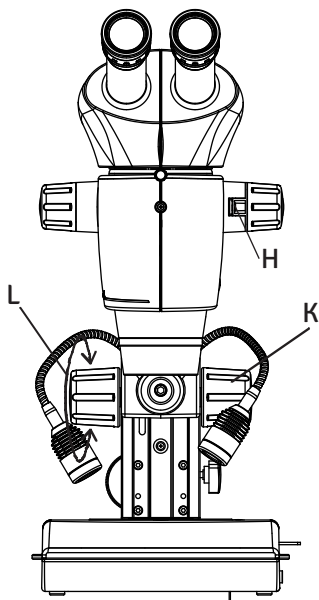

Fig.9
1. Hold firmly the right knob shown as (K). Refer Fig.9.
2. Rotate left knob (L) to clockwise to loosen torque of the focusing mechanism of microscope.
1. Refer fig 9, Red tab 'H' is always disengaged from factory for continues zoom observation.